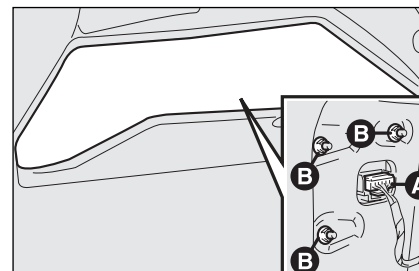

fig. 30
- ☐ from inside the boot, withdraw the connector **A**-**fig. 30**, loosen the 3 nuts **B** with the extension (where provided) used to tighten the wheel bolts (supplied with the tool kit) and remove the light unit.